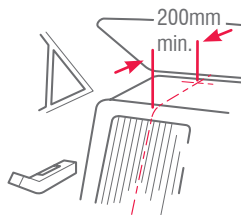

Fig.3. Centre line of seating position
**For Sedans only** - Drill 9mm diameter hole in the parcel shelf on the centre line of the seating position as shown in Fig 3. Before drilling the hole, check the underside for accessibility. Install the anchor bolt as shown in Fig 2.